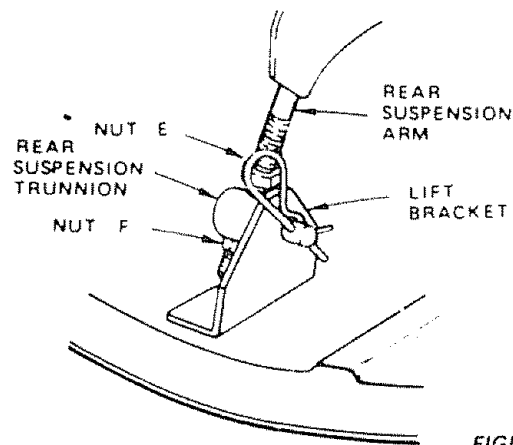

FIGURE 35
- b. To raise rear of mower, loosen nut "E" on both rear suspension arms. Screw both nuts "F" up EQUAL NUMBER OF TURNS (Fig. 35)
- d. To lower rear of mower, loosen nut "F" on both rear suspension arms an EQUAL NUMBER OF TURNS (Fig. 35).